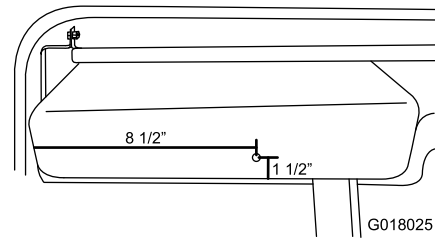

Figure 14
1. Drill a 5/16 inch hole in the glove box 8 1/2 inches from the left and 1 1/2 inches from the bottom (Figure 14).